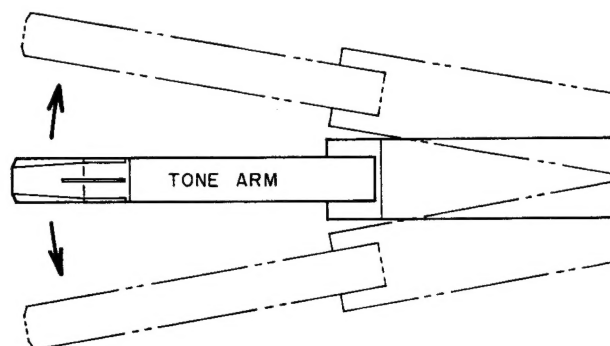

Fig. 6-4
- 1) Move the Tone arm to left side as shown Fig. 6-4.